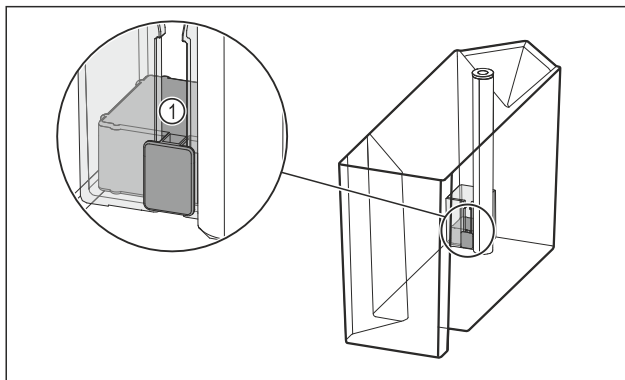

Fig. 100
- ▶ Check whether the float Fig. 100 (1) is jammed.